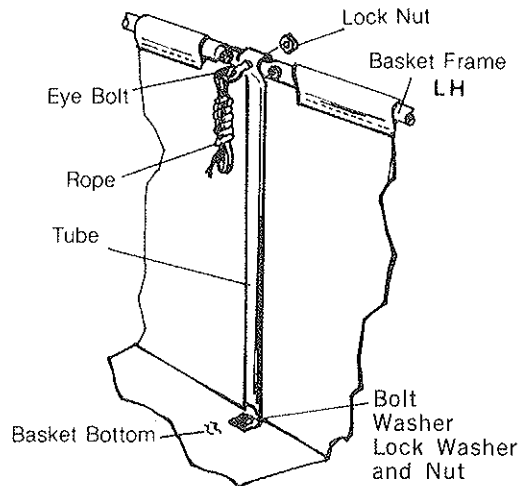

Figure 7
- Fig. 7 & 13 - Fasten the Tube to the bottom of the Basket with a $\frac{1}{4}$ -20 x $\frac{5}{8}$ Hex Hd. Bolt, Flat Washer, Lock Washer and Nut. Now pull the Basket Frame up until it fits in the curve at the top of the Tube, then insert the Eye Bolt thru the Tube and the Basket Frame and fasten with the Lock Nut. Now tie the rope in the Eye Bolt.